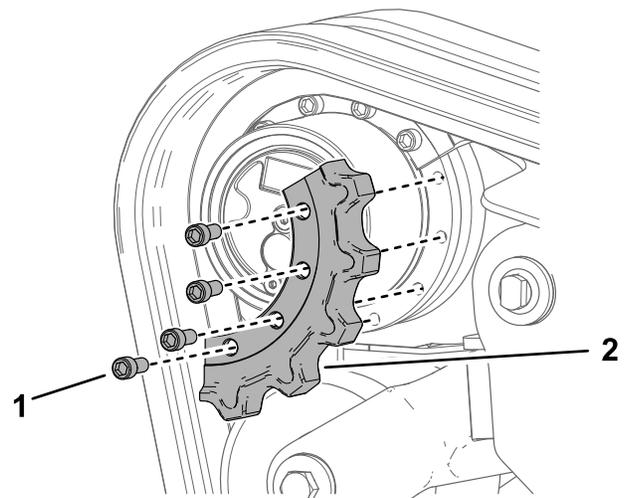

Figure 73
12. Remove the sprocket segment (Figure 73).
7. Apply thread-locking compound to the bolts of 1 drive sprocket segment that you removed and install the sprocket segment (Figure 73). Torque the bolts to 247 to 301 N·m (182 to 222 ft-lb).